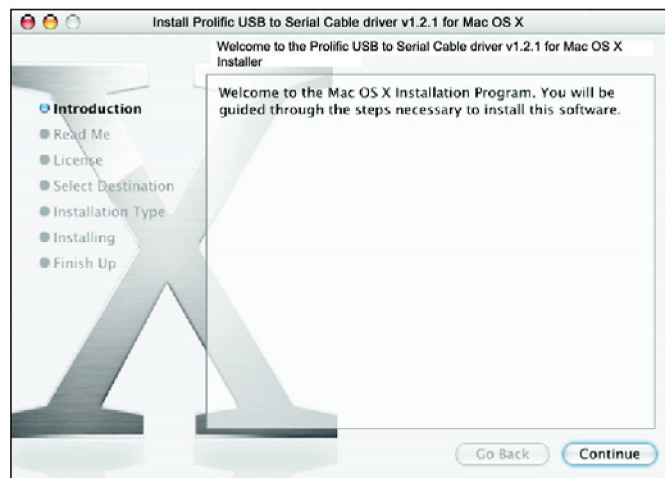

Figure 3-7. Welcome screen.
3. When the Welcome screen appears, click "Continue." See Figure 3-7.